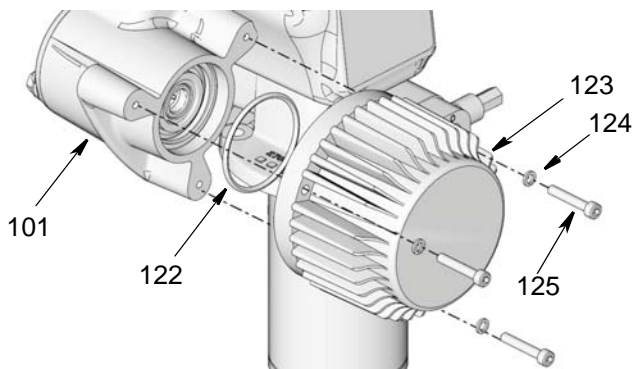

FIG. 22
8. Observe location of priming rod (215) and shovel piston (216) inside the shovel cylinder (208) (See Pump Parts, page 38). If the piston is not located in the lowest position inside the cylinder:
- a. Remove screws (125) and washers (124) holding motor (123) to gear box housing (101) (FIG. 22).
- d. Verify o-ring (122) is still in place and correctly seated in motor (123) (FIG. 22).
- e. Reinstall motor (123) to gear housing box (101) using screws (125) and washers (124). Use a wrench to tighten screws securely. Torque to 12 - 14 ft lbs (16 - 19 N.m) (FIG. 22).